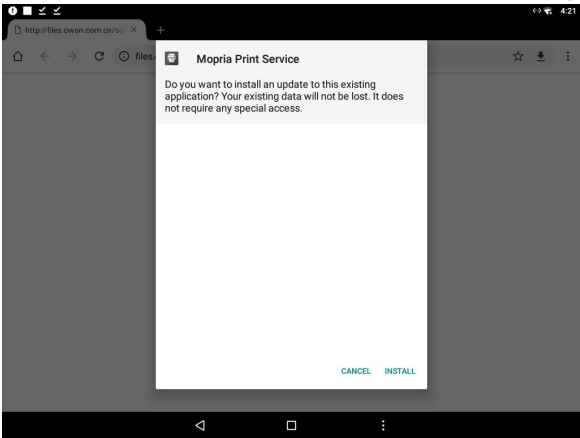

Figure 3
3. Click install, start to install print app,as shown in Figure 3.